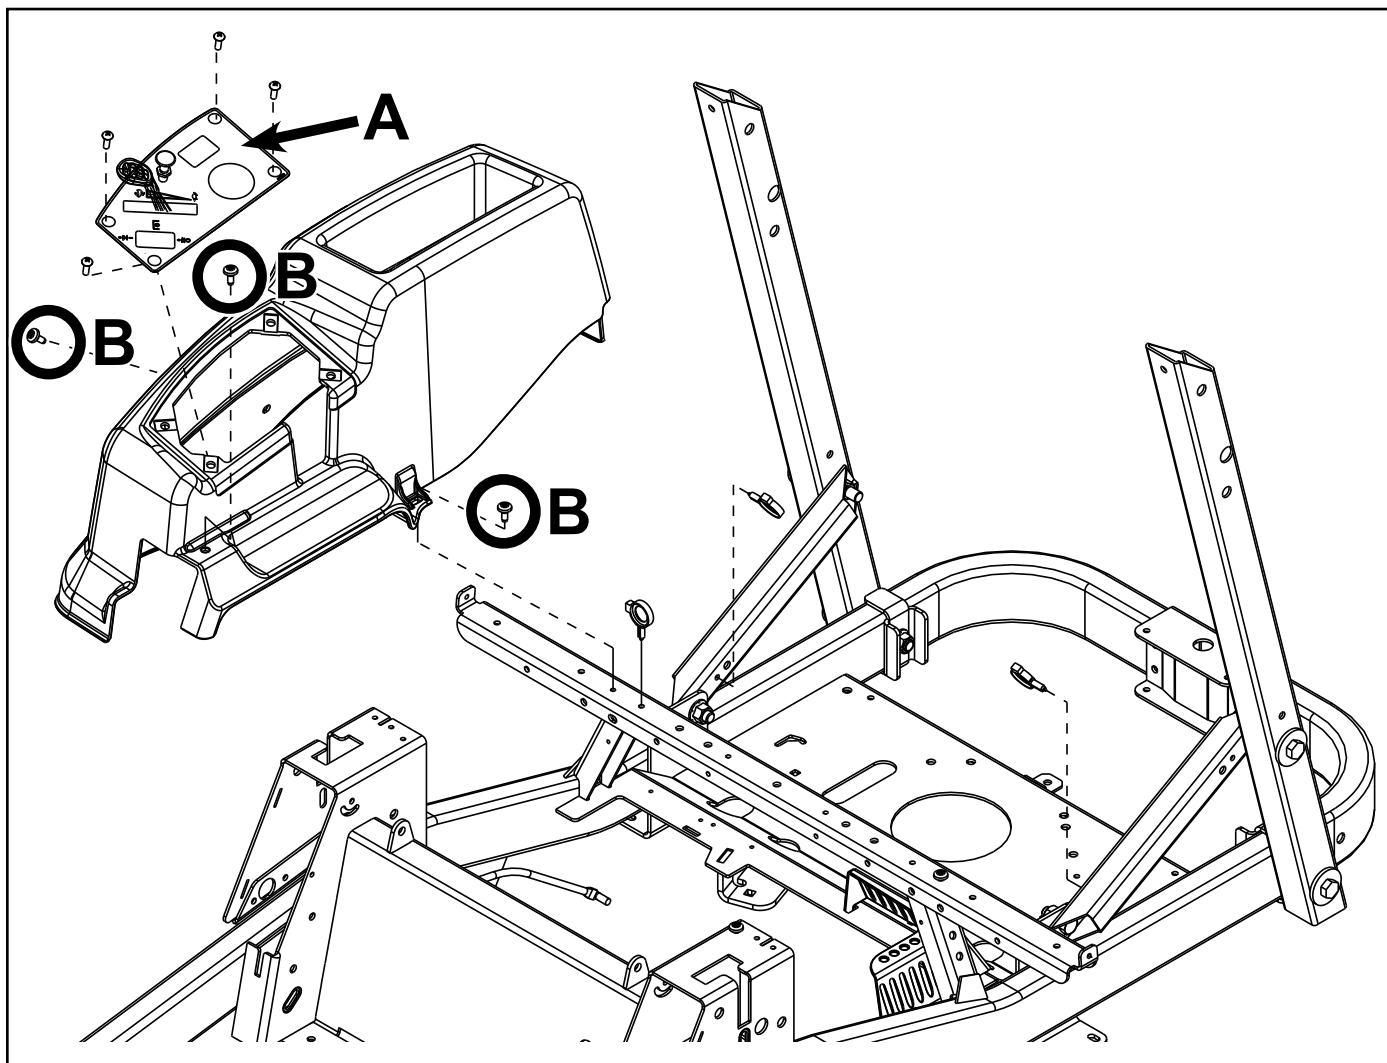

Fig. 011
2. Install the (3) screws (B) that secure the RH fender to frame and torque to specification – 7 ft-lbs. (9 Nm).
3. Position control panel (A) back onto RH fender. Install and sufficiently tighten the (4) screws that secure the control panel to the RH fender.
5. Connect battery terminals and lower seat (Fig. 011).